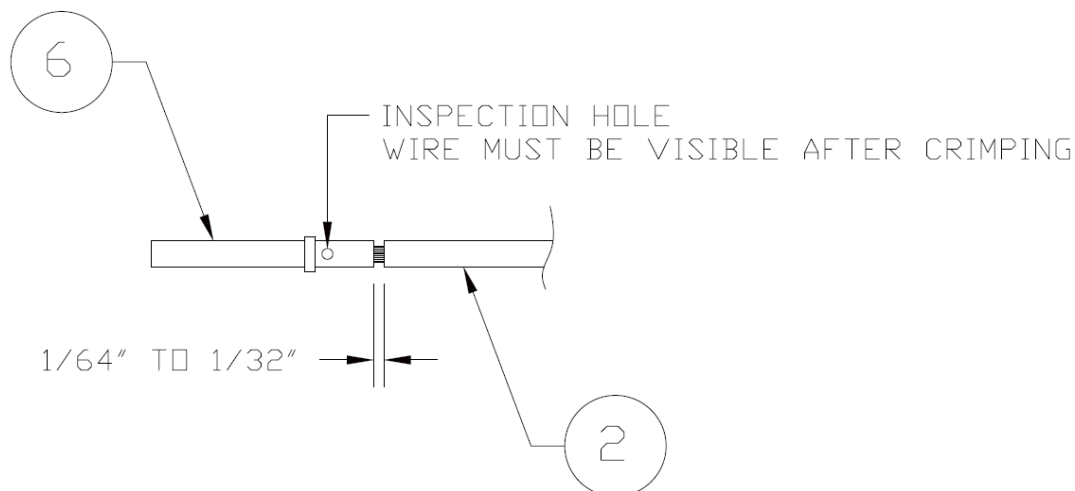

Figure B-7. Insulation/Contact Clearance
5. Strip back approximately 0.17 inches of insulation from each wire of the shielded cable (item 2) and crimp a contact (item 6) to each conductor. It is the responsibility of the installer to determine the proper length of insulation to be removed. Wire must be visible in the inspection hole after crimping and the insulation must be 1/64 – 1/32 inches from the end of the contact as shown in Figure B-7.
2. Strip back approximately 0.17 inches of insulation and crimp a contact (item 6) to the 4" length of 22 AWG insulated wire. It is the responsibility of the installer to determine the proper length of insulation to be removed. Wire must be visible in the inspection hole after crimping and the insulation must be 1/64 – 1/32 inches from the end of the contact as shown in Figure B-7.